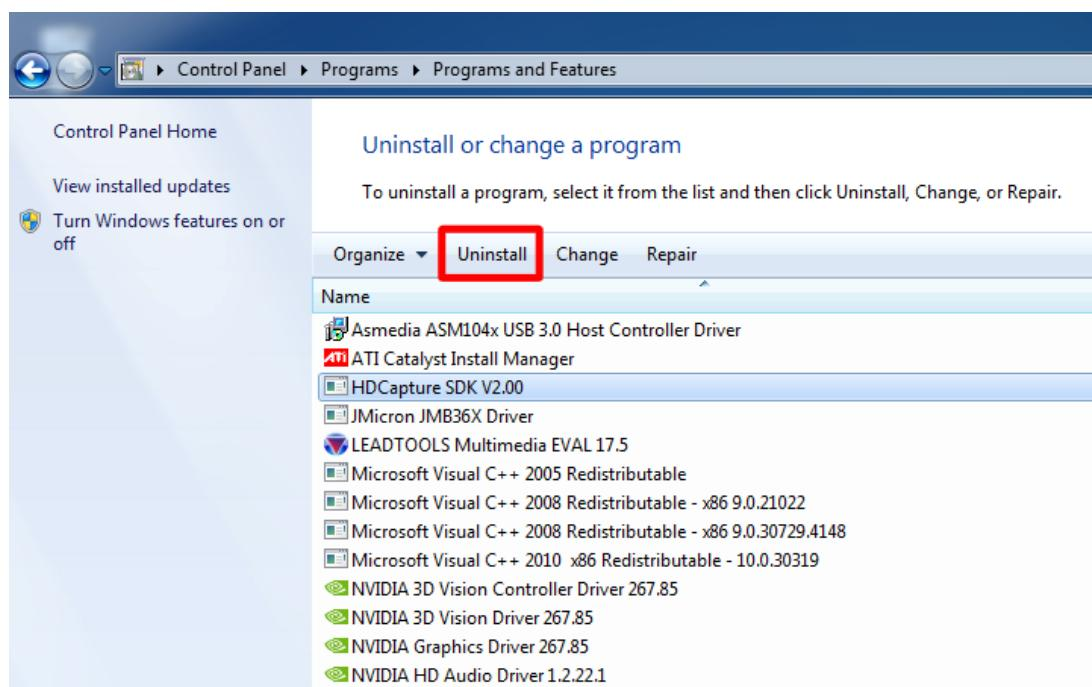

Figure 1-15: Uninstall HDCapture SDK
Step 2: Select **HDCapture SDK** and click the **Uninstall** button to uninstall the **HDCapture SDK** (**Figure 1-15**).